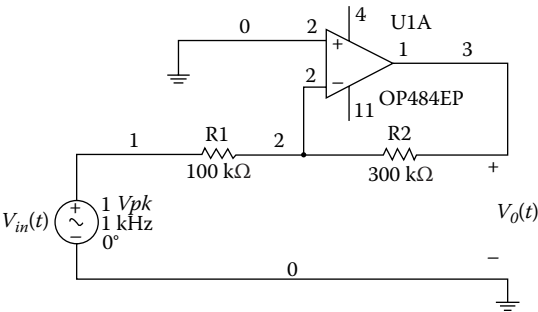

FIGURE 5.5
For the op amp circuit shown in Figure 5.5, (1) use the Analog Discovery board to obtain the gain of the amplifier. (2) Compare the measured gain with the theoretically calculated gain.
Use a breadboard to build the circuit shown in Figure 5.5. Connect the AWG1 (yellow wire) to node 1 of the circuit. Also, connect the scope